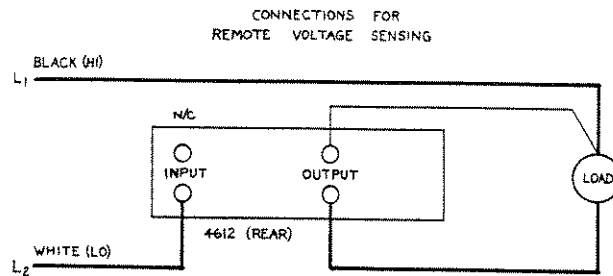

FIGURE 3
10.1.1 REMOTE POTENTIAL SENSE Figure 3 shows an alternate connection method requiring only one line of the load circuit to be interrupted. Since very little current flows through the potential line to output high, light wire is satisfactory for this connection.